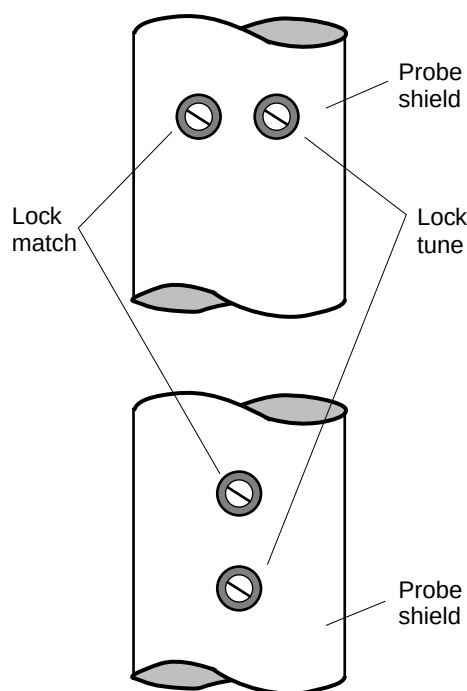

Figure 21. Lock Tune and Match Capacitors Locations
6. Tune the lock circuit to the proper frequency by alternately adjusting the two variable capacitors accessed through the two holes in the probe shield as shown in Figure 21. Continue until a minimum reading is obtained on the TUNING meter.